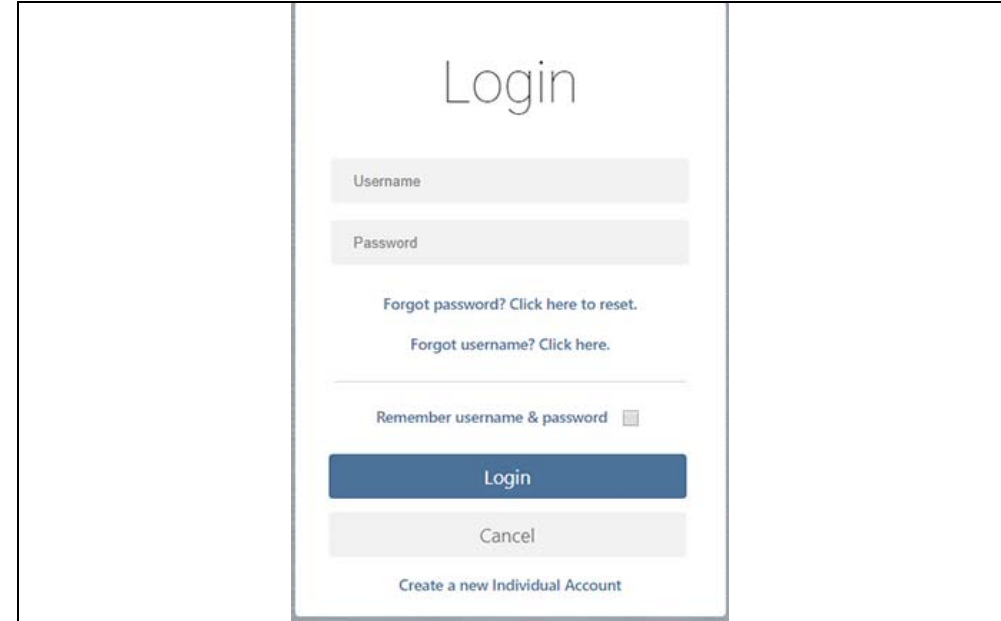

Figure 14-5
3. Log in using your **Username** and **Password** (Figure 14-5).